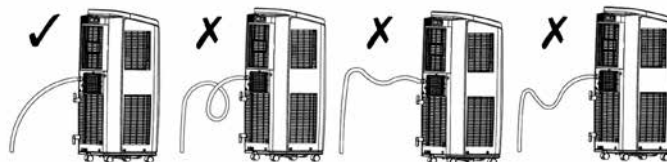

Fig. 17
- 5 Make sure that the drain hose does not hang in the water and that it always runs downwards (see fig 17).